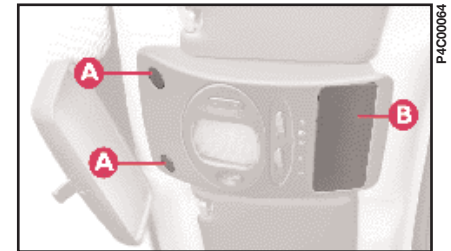

fig. 26
1) Remove the 2 plastic caps **A** and release cover **B** (fig. 26).